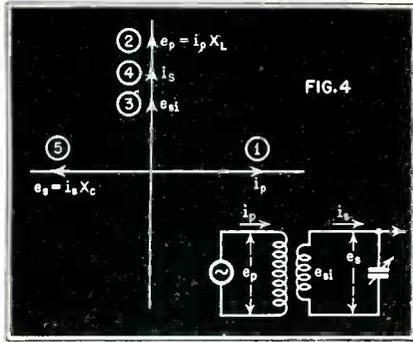

Figure 4
The illustration pertaining to the vector diagram of the tuned r-f transformer is shown in *Fig. 4*. Each vector, as it is explained and developed is numbered in numerical order, starting with the digit, (1). We start with the plate current, i_p , flowing in the primary coil, L_p , and lay off this current vector (1) as shown. Because of this current, i_p , a flux is set up which links the primary inductance, L_p , and the secondary inductance, L_s , inducing voltages, e_p (2) and e_{si} (3), respectively, in these coils. Since e_p and e_{si} are induced by the same flux they both have the same phase and lead the current by 90° . This principle was emphasized, particularly, in the previous section.